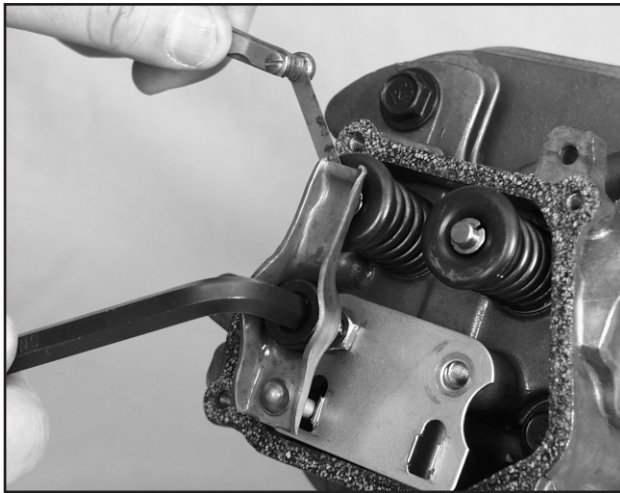

Figure 9.16 — Adjusting Valve Clearance
1. Loosen the rocker arm jam nut. Use an allen wrench to turn the pivot ball stud while checking the clearance between rocker arm and valve stem with a feeler gauge (see Figure 9.16).